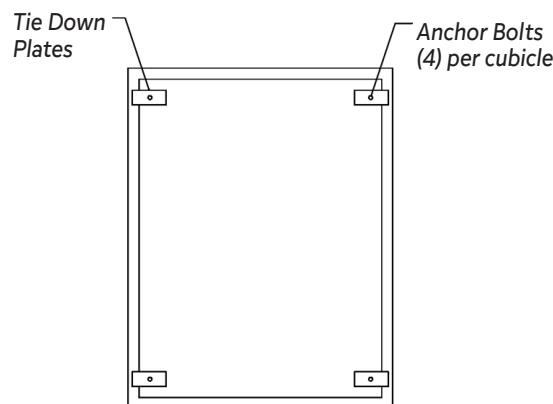

Figure 3(a). Anchor-bolt and tie-down plate locations. Align level and shim bays so that holes between bays are in alignment.
Step 3 - Each bay of a multi-bay assembly is identified by a number on the front of the bay. Proper positioning of the switchgear is indicated by corresponding numbers on the anchor-bolt plan shown in Figure 3(a) and shown in the drawing enclosed in the waterproof envelope labeled: **"OPERATION AND MAINTENANCE MANUAL PACKET"**.
With all shipping skids removed lift the unit over the anchor bolts, observing the precautions given under **"HOISTING"** in Figure I. Align the channel base so that it is square with and centered around the rectangular anchor bolt pattern shown in Figure 3(a).